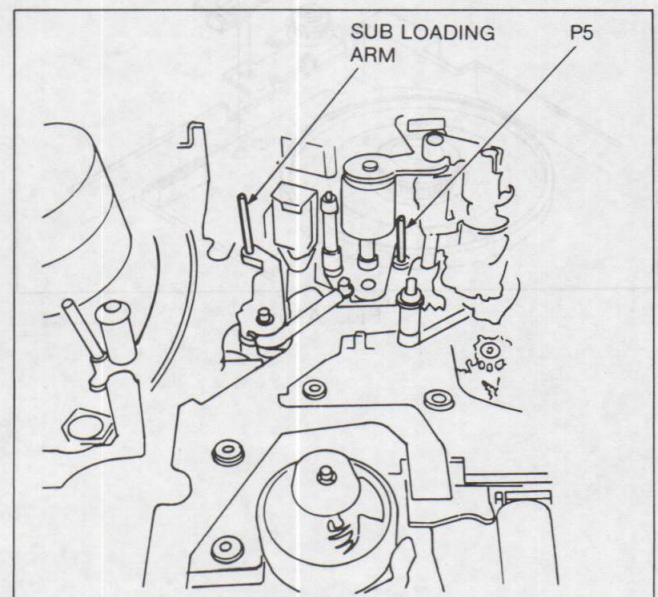
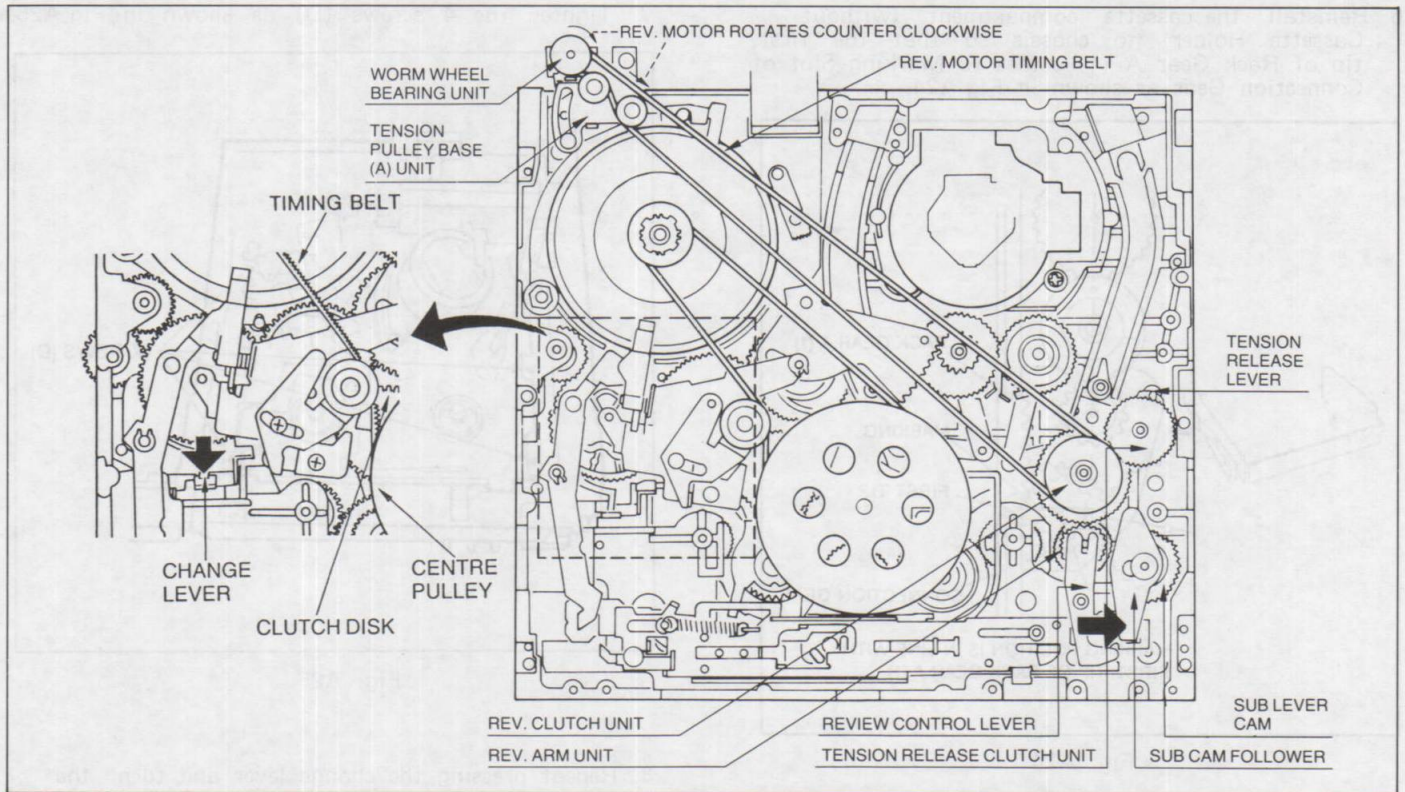

Fig. A19 STOP (STOP 1) Condition
Fig. A20 Bottom View of GII Mechanism
- (1) Release the Change Lever by pushing it to arrow mark direction as shown in Fig.A20.
- (2) Turn the capstan motor to clockwise until the Clutch Disk is locked. (Clutch Disk is locked once in its one rotation)
- (3) Release the Change Lever again when Clutch Disk has been locked.
- (4) Repeat item (1) to (3) until mechanism comes to Stop(G-Rev), Stop1(GII) position as shown in Fig. A19.
* To confirm the Stop1 position(GII mechanism) Press the Sub Cam Follower to arrow mark direction as shown in Fig.A20 and turn the capstan motor to both of forward and reverse direction. If takeup reel table is rotated when capstan is rotated to clockwise and if supply reel table is rotated when capstan is rotated to counter clockwise, that is Stop1 position.